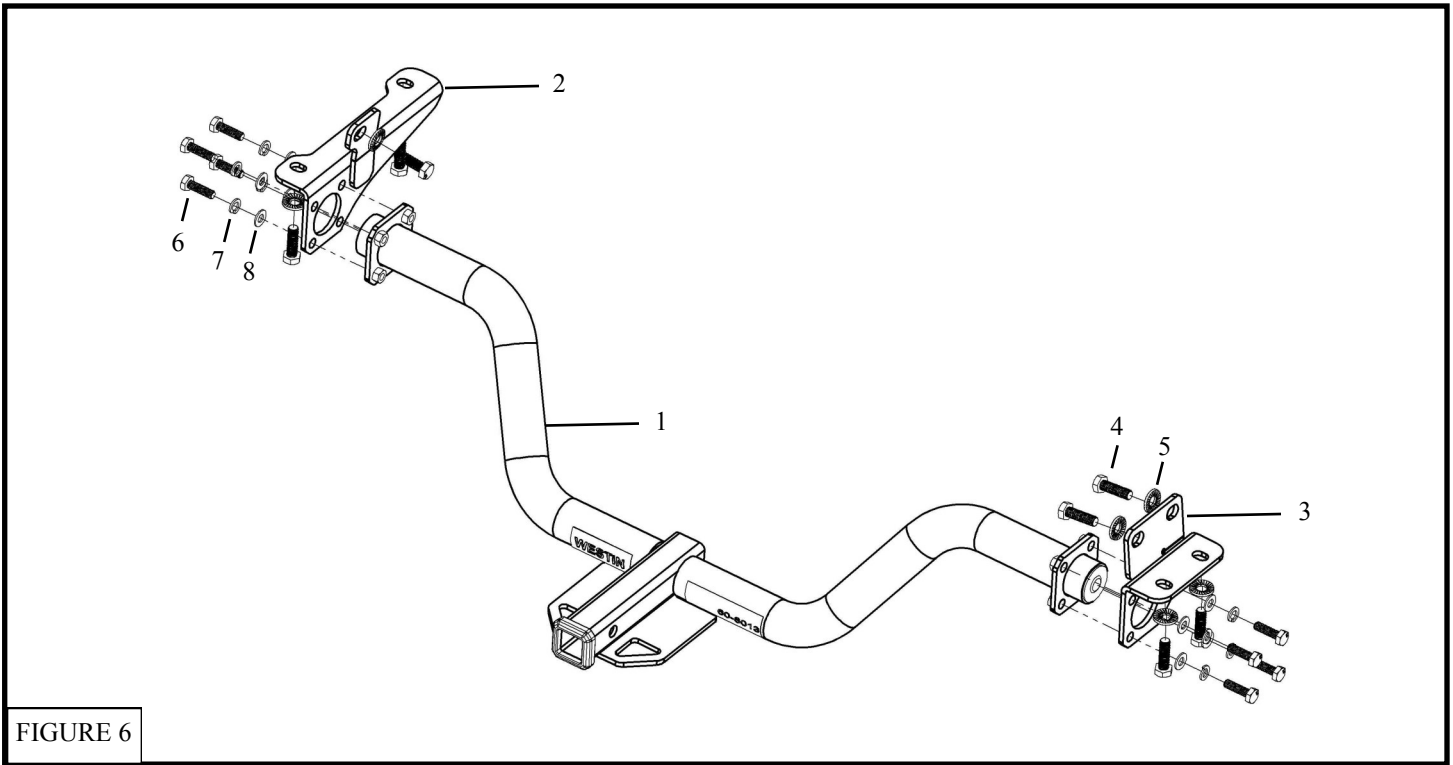

FIGURE 6
4. Refer to the fastener detail illustration for the fasteners at the beginning of page three. Figure 6. First, loosely attach the driver and passenger side mounting brackets to the vehicle unibody channel using the supplied M12 cap screws, split lock washers, and flat washers. Do not fully tighten at this time.